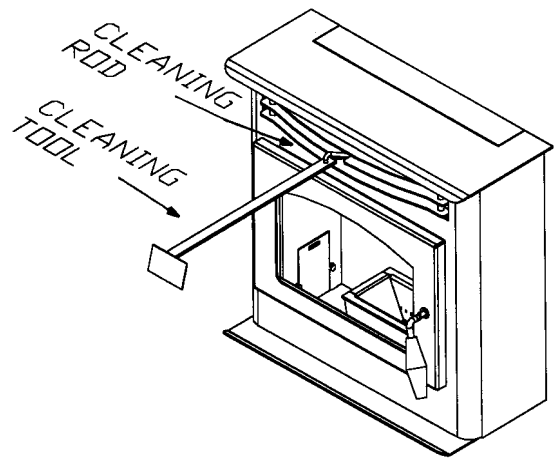

Figure 13
- A. **Heat Exchange Tubes** – Your stove is designed with a built-in heat exchange tube cleaner. This should be used daily to remove accumulated ash on the tubes, which reduces the efficiency of your unit. Insert the handle end (with hole) of the cleaning tool onto the cleaning rod (refer to figure 13). The cleaner rod is located in the grill above the stove door. Move the cleaner rod back and forth several times to clean the heat exchanger tubes. When finished be sure to leave tube cleaner at the rear of the stove.